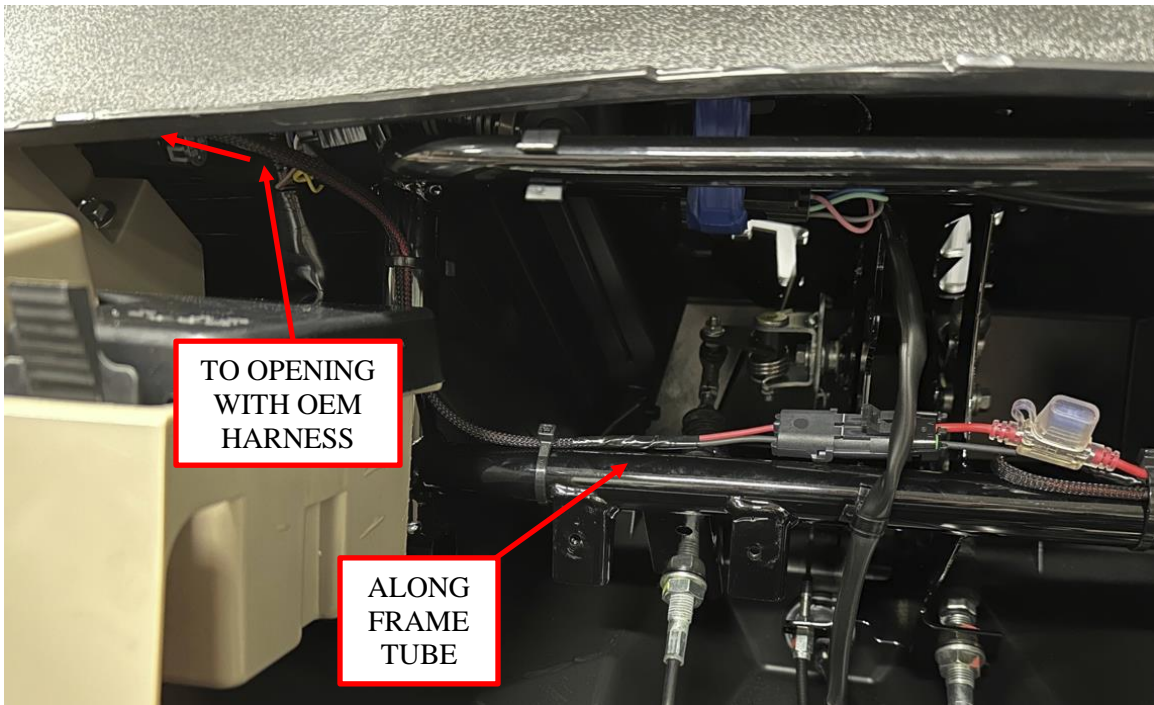

Figure 12: Battery harness routing along frame tube to opening.
13. Under the hood, route the ring terminal end of the battery harness into the opening with the main OEM wire harness. Loosely secure the battery harness, with zip ties, to the frame tube as shown. See Figure 12. **Note: DO NOT connect the battery harness to the chassis harness until it has been connected to the battery first.**
20. Connect the battery harness to the chassis harness under the hood. See Figure 12. Zip tie the battery harness along the main OEM harness from the battery compartment all the way back under the hood, making sure to avoid any engine heat or moving components.